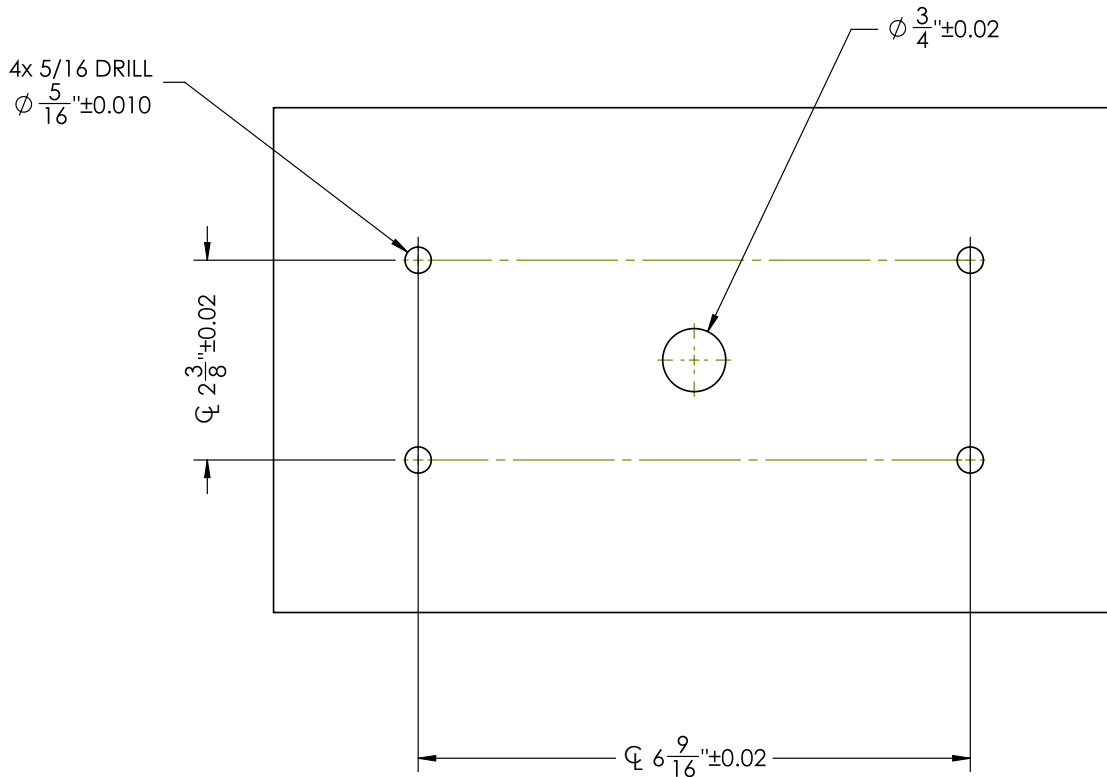

FIG. 2
1. Drill (4) 5/16" holes to mount light. Drill 3/4" wire hole. See Fig. 2.
4. Insert the (4) supplied screws into each screw hole.
5. Place (4) flat washers over the screws on the back of the light.
6. Screw onto each fastener the (4) well nuts onto the back of the light. Tighten until snug.
9. Secure the light to mounting surface. While applying pressure on each fastener, tighten the (4) screws 7 full turns.